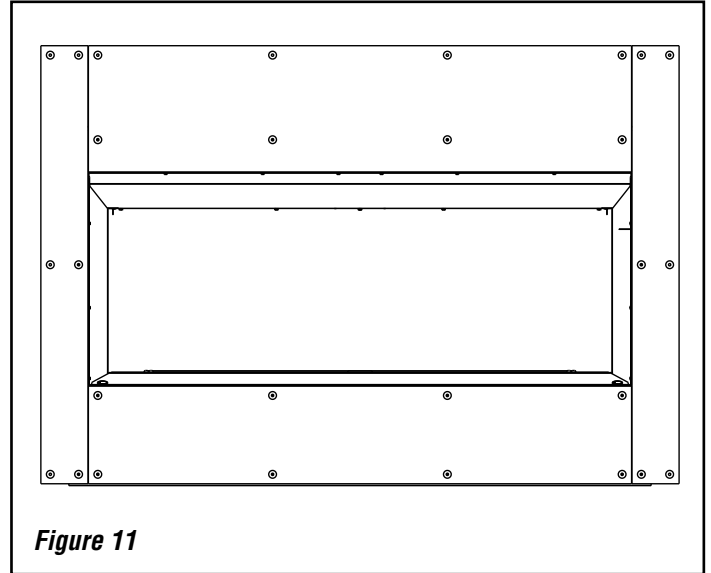

Figure 11
1. Using 1" self drill bugle drywall screws (supplied), install non-combustible fireboard at bottom, sides and top of fireplace face (**See Figure 11**).